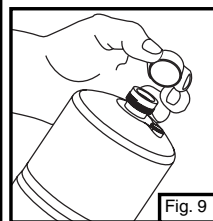

Fig. 9
- Remove protective cap from top of propane cylinder. Save cap for use in storing. (Fig. 9)